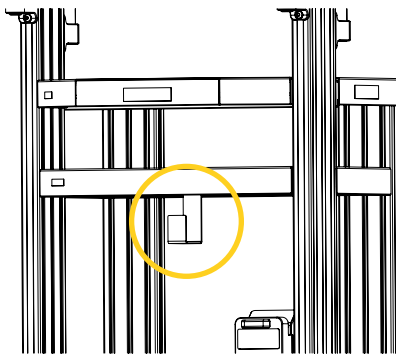

Figure 3 : Location of the cable management hook
1. If required, unplug the UPS power cable from the outlet, wind the cord and hang it on the cable management hook (Figure 3).